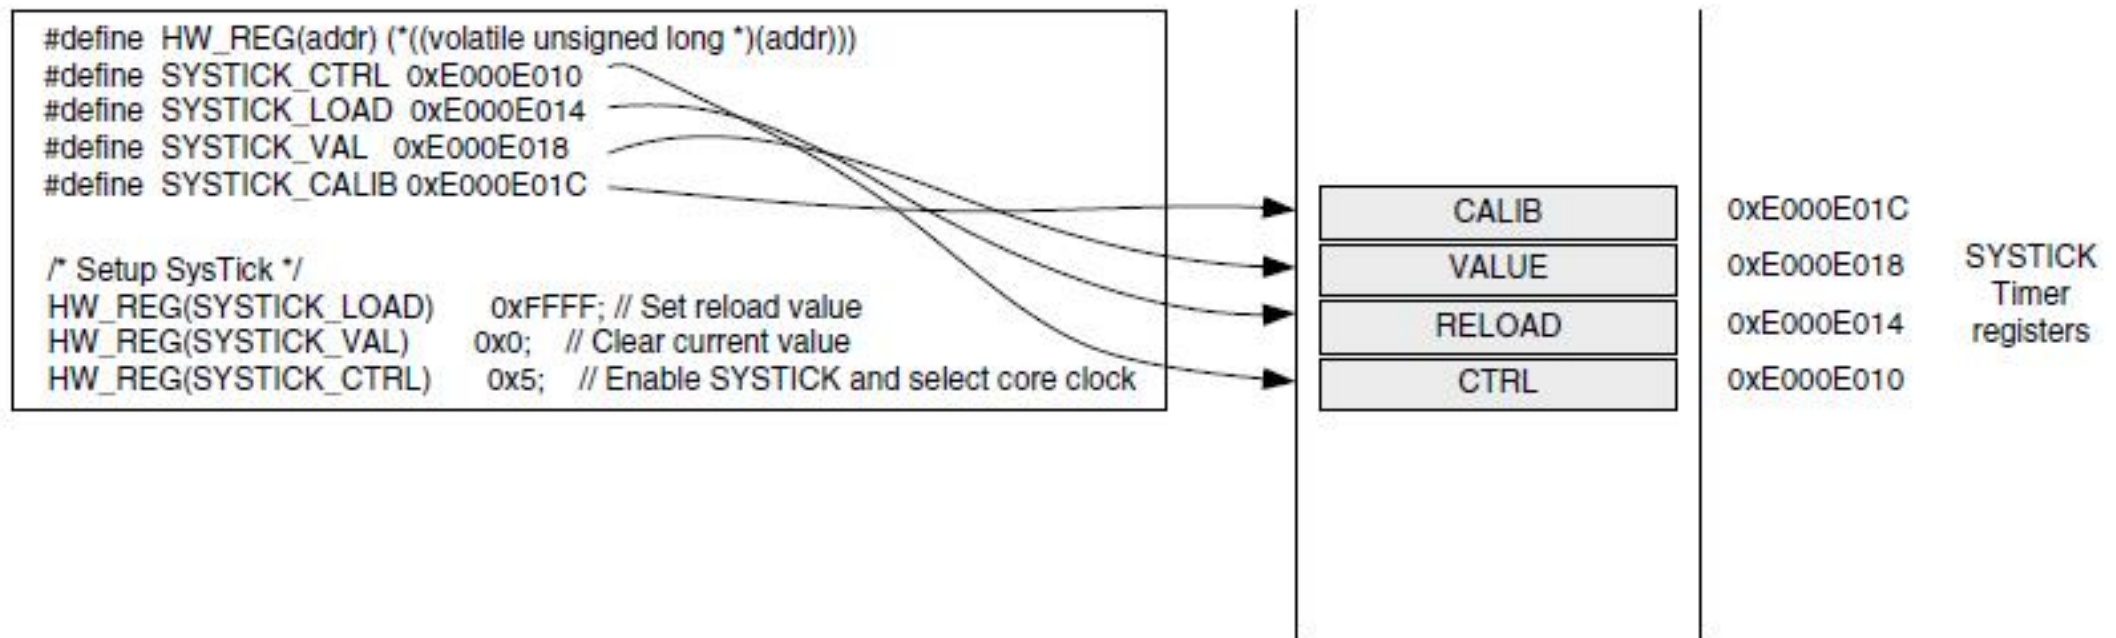

FIGURE 10.3
- This is illustrated in Figure 10.3.